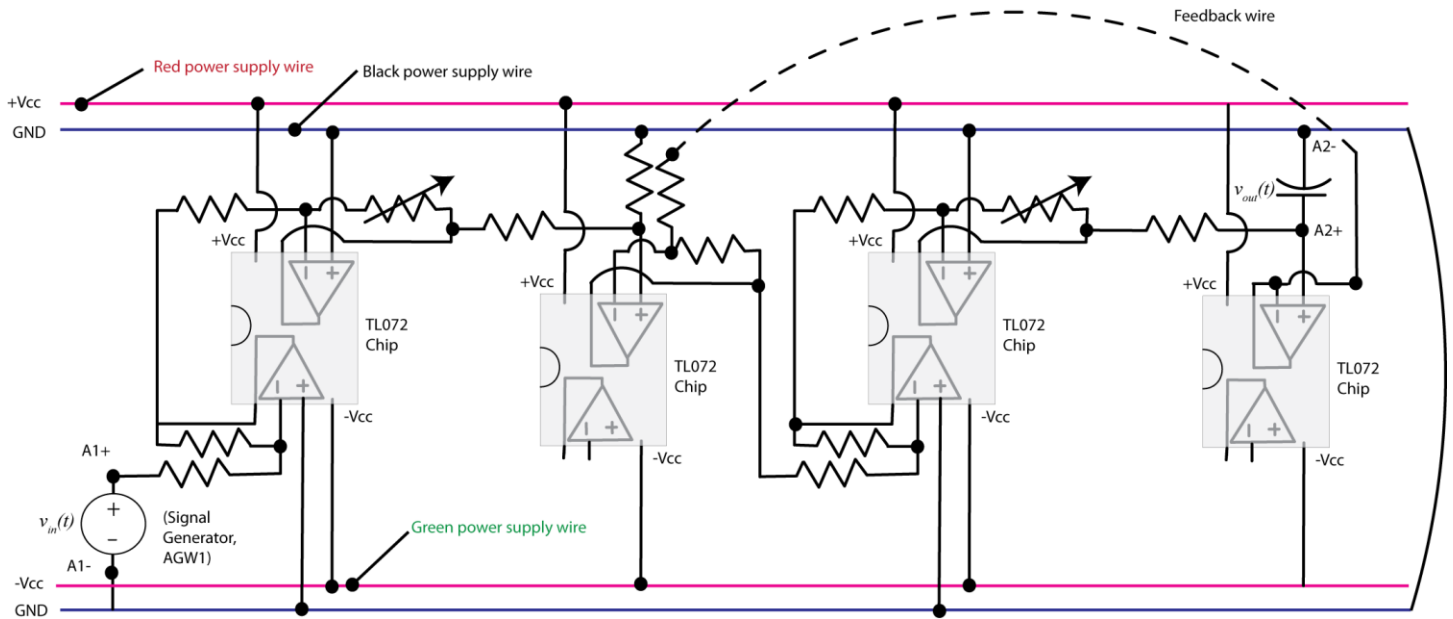

Figure 9. Closed loop system with first order plant, proportional control, and prefilter.
8) Remove the load resistor from the isolation amplifier, and connect the feedback loop. Measure the output of the system as the voltage across the capacitor as shown in Figure 9. Do not change any of the variable